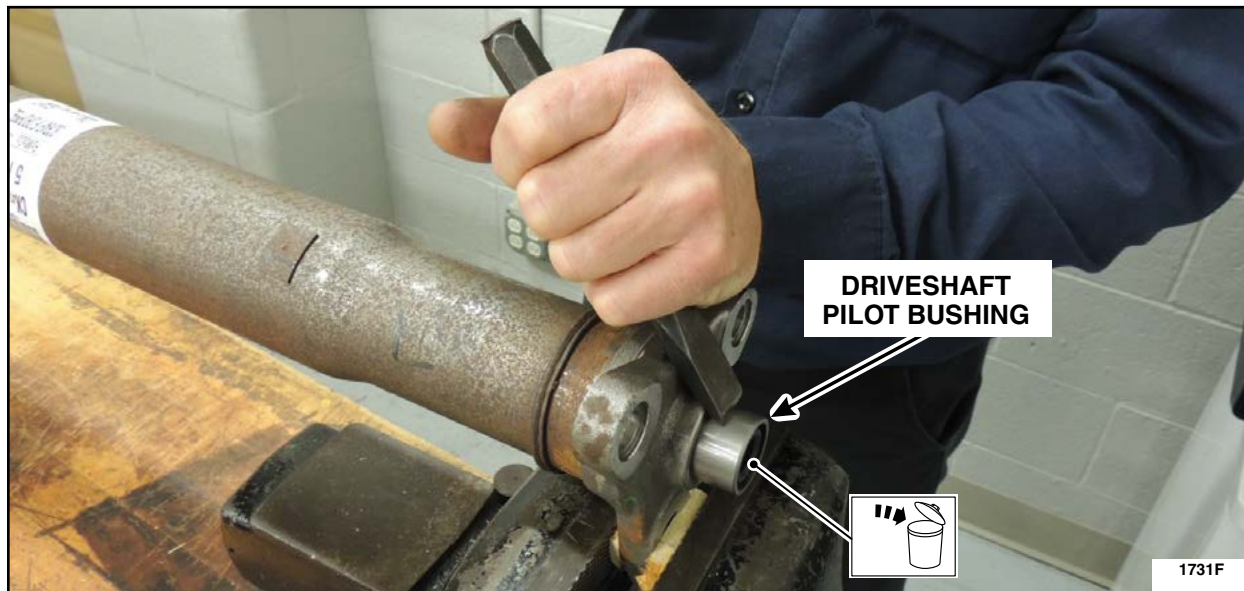

FIGURE 3
- Using a hammer and chisel with a sharp edge, remove and discard the driveshaft pilot bushing. See Figure 3.